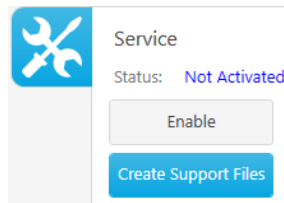

Figure 1.1 Create Support Files button
2. Scroll down to the **Service** section and click **Create Support Files** (Figure 1.1). A *PEAQ-DSC_SupportFiles* archive is automatically saved to your desktop.